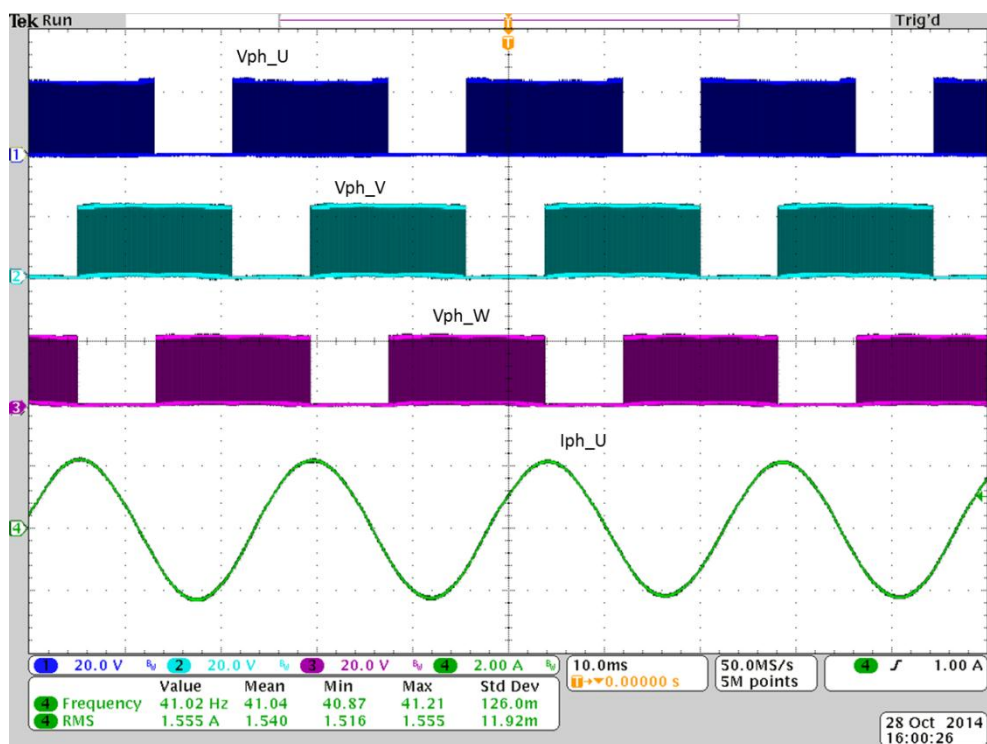
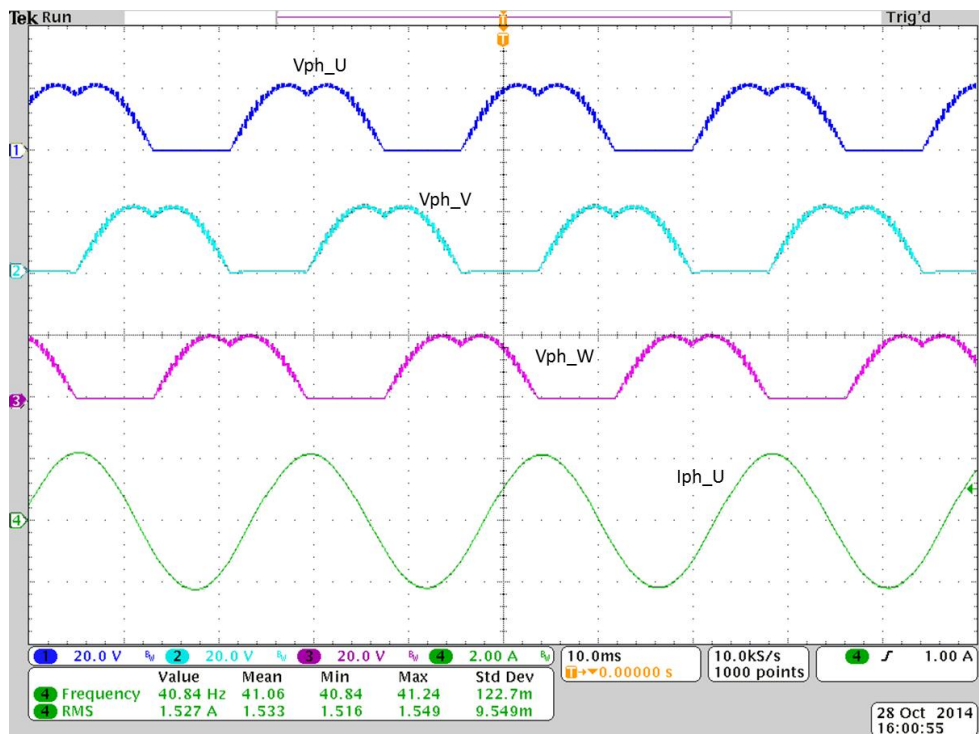

Figure5: Motor phase voltages & current at 310 rpm¹
Figure6: Filtered Motor phase voltages & current at 310 rpm
- 2. Motor phase voltage and current waveforms:** Figure 5 and 6 shows the three-phase voltages applied voltages with respect to GND and current flowing through one phase of motor at full speed, 310 rpm. Figure 5 shows the actual PWM voltages waveform applied to motor whereas figure 6 shows the filtered voltage waveforms. Figure 6 demonstrate sinusoidal PWM with third-harmonic addition, as explained in DRV10983 data-sheet. The third harmonic content in phase to ground voltage get cancelled across phase to phase voltage and produce sinusoidal current in motor phase, as evident in both figure 5 and 6.